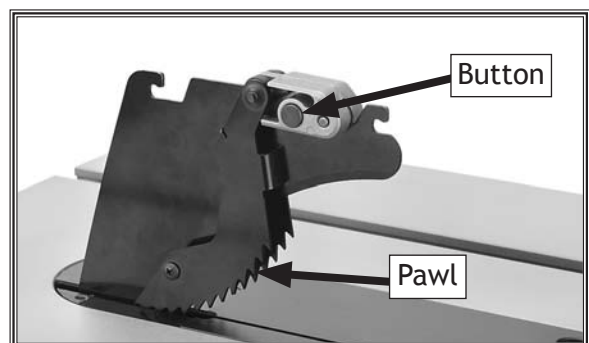

Figure 9. Button for removing pawls.
2. Press the button (**Figure 9**) on the block that holds the pawls, then remove the pawls from the spreader.
3. Press the button on the pawl block shown in **Figure 9**, then pivot the pawls down until they lock into place.